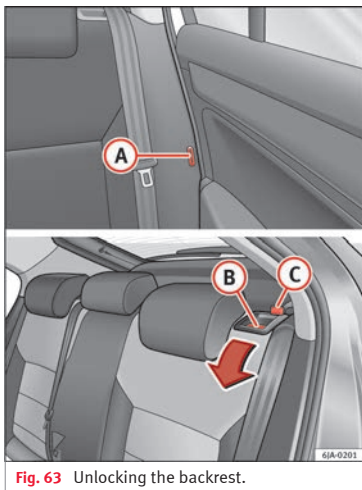

Fig. 63 Unlocking the backrest.
- » Fig. 63 located on the corresponding side of the vehicle – safety position.